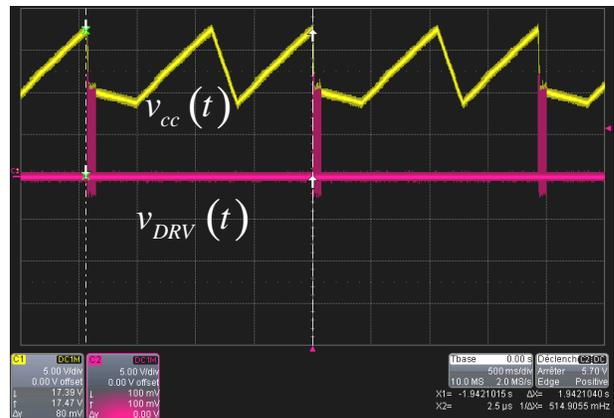

Figure 5. In this Case, the Timer Interrupts the Switching Pulses after 100 ms and the Part Enters Auto-recovery
2. when a short-circuit is applied at the end of the cable, there are chances that the auxiliary voltage does not collapse, keeping the controller alive despite an over current on the secondary side. The timer can therefore count up to 70 ms (typical) and make the part enter auto-recovery as before however with a longer recurrence. This is what Figure 5 shows. Again, a low duty ratio in burst mode guarantees a low average input power ($0.07/1.94 = 3.6\%$).